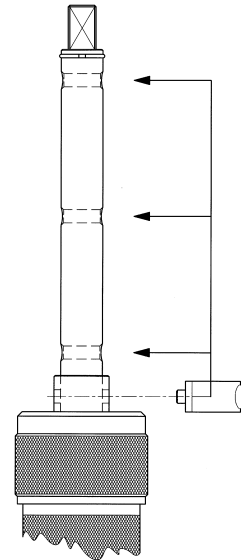

Figure 17
- For this type of branch connection and intervention, position the retention mechanism in the lowest of the three anchoring openings on the chuckshaft. See *Figure 17*.